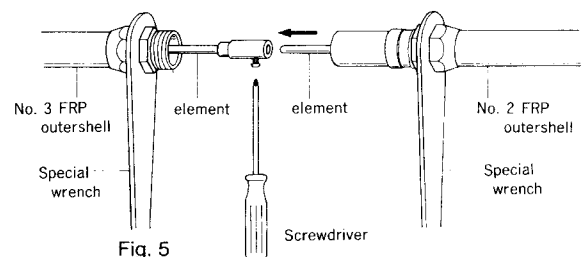

Fig. 5
- 5) Connect No. 2 FRP outershell and No. 3 FRP outershell, and elements in the outershells the same way as shown in 1) to 4). This time, however, use bigger diameter section of the wrenches, of the ones which have holes in the both ends, as shown in Fig. 5.